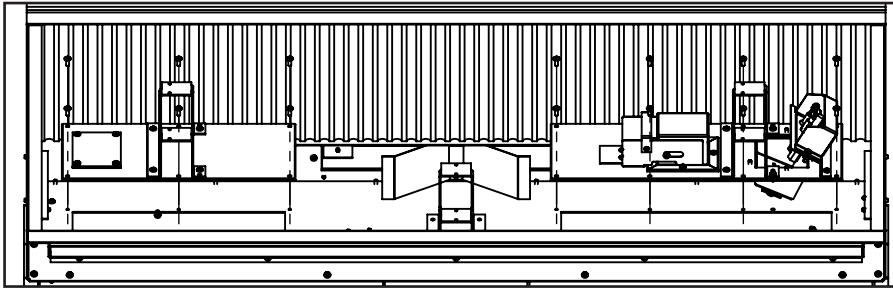

Figure 21: Removing Access Door
2. Remove the (14) T-20 bolts retaining the access panels as shown in Figure 21.